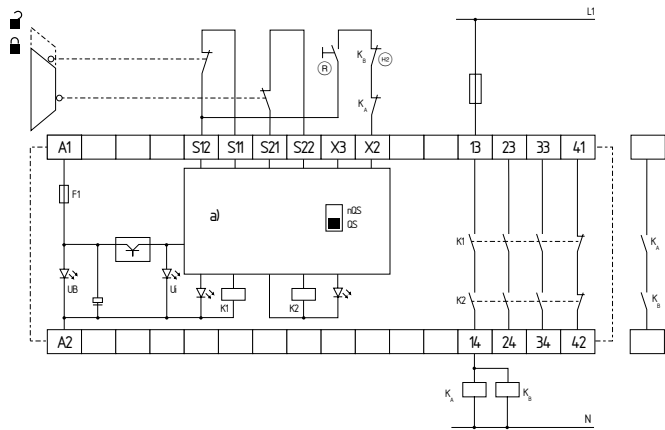

Fig. 4
Dual-channel control, shown for a guard door monitor with two position switches where one has a positive break contact; with external reset button (R) (Fig. 4)
- (R) = Feedback circuit